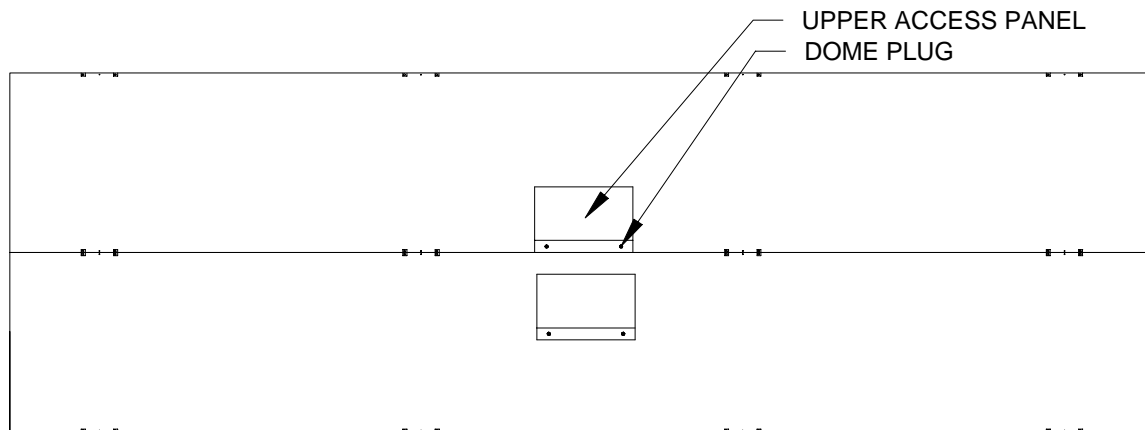

Figure 11 Upper Section Rear Access Panel
1. Remove the rear access panel of the upper scoreboard section and the dome plugs on the plate below the access panel. Figure 11 shows the location of the upper rear access panel and the dome plugs.